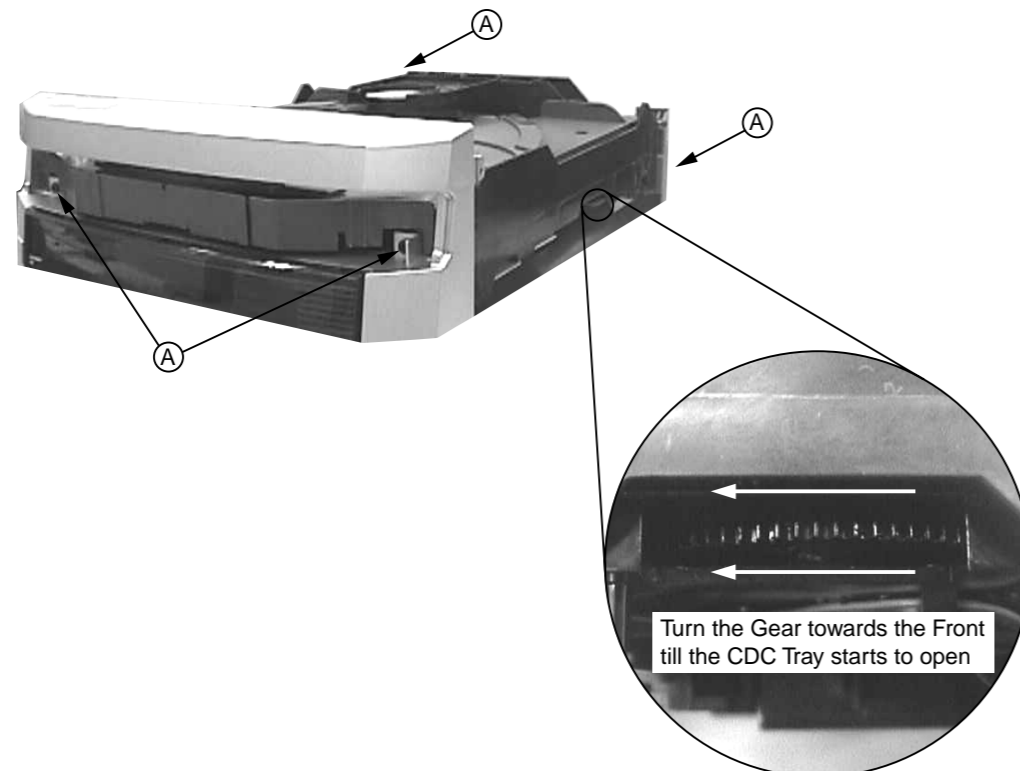

Figure 3
- 1) Loosen the 4 screws, slide Cover top (pos 30) towards the rear and remove it upwards.
- 2) Loosen 3 screws slide the Panel right (pos 26) towards the rear and remove it outwards. Do likewise for the Panel left (pos 27).
- 3) Push the gear slowly towards the front as shown in figure 3
- 5) Loosen 4 screws A to remove the CDC Module (pos 28) as shown in figure 3.